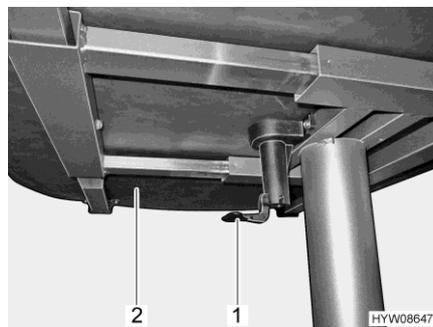

Fig. 87 Lever for moving the table top
- Pull or press down the lever (Fig. 87,1).
- Move the table top (Fig. 87,2) to the desired position.